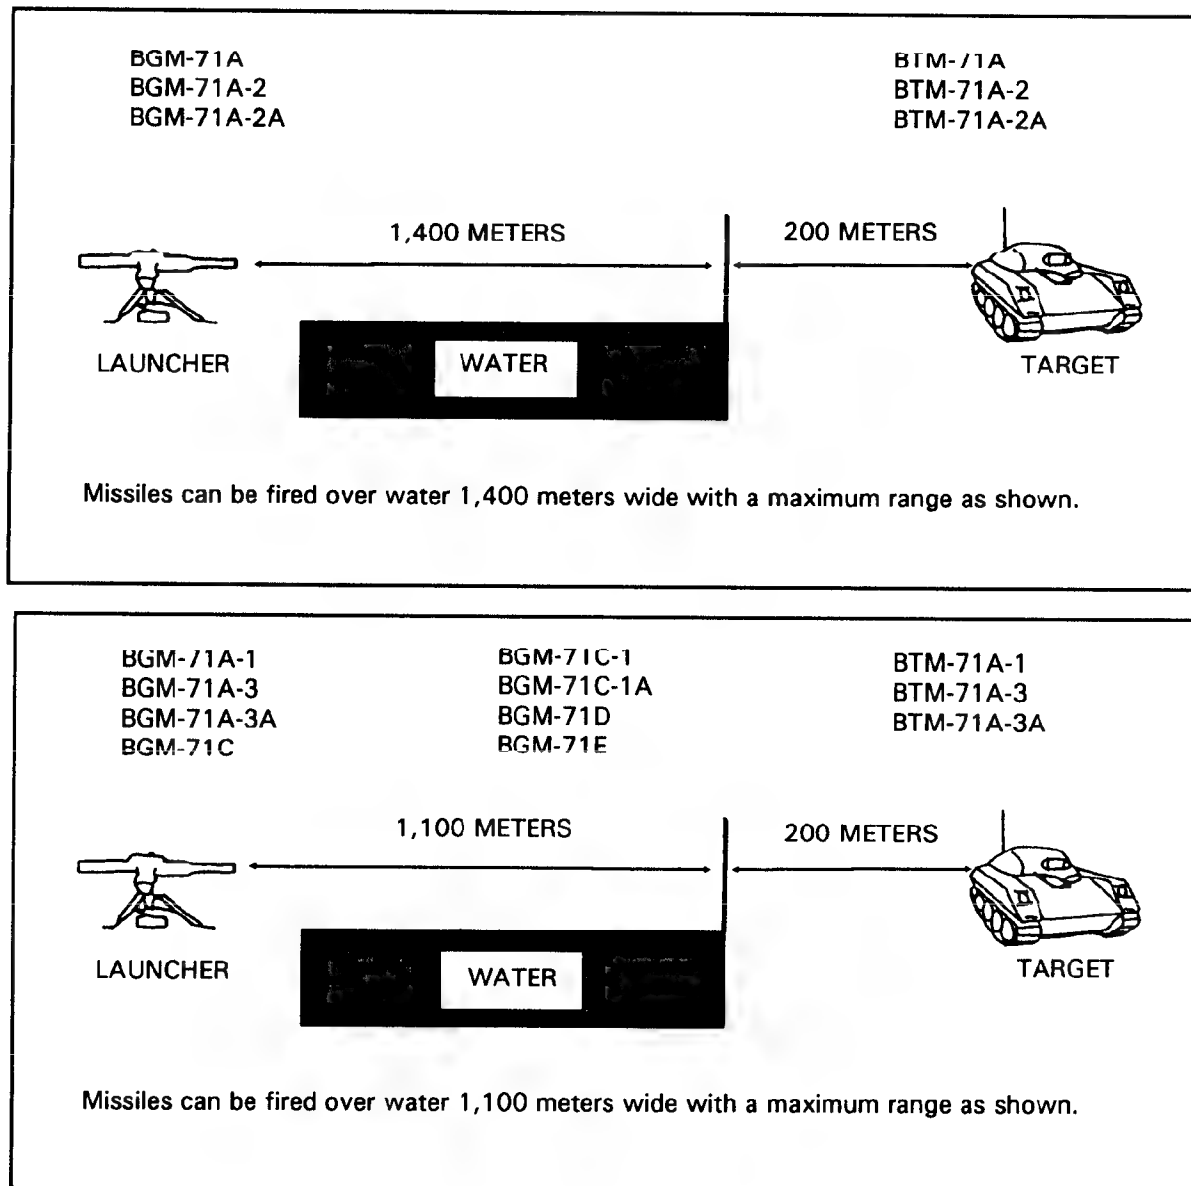

Figure 2-2. Limited TOW missile range.
(2) The various types of TOWS listed may be fired over water to a limited range as shown in Figure 2-2 (TOW launcher and target at water surface level).